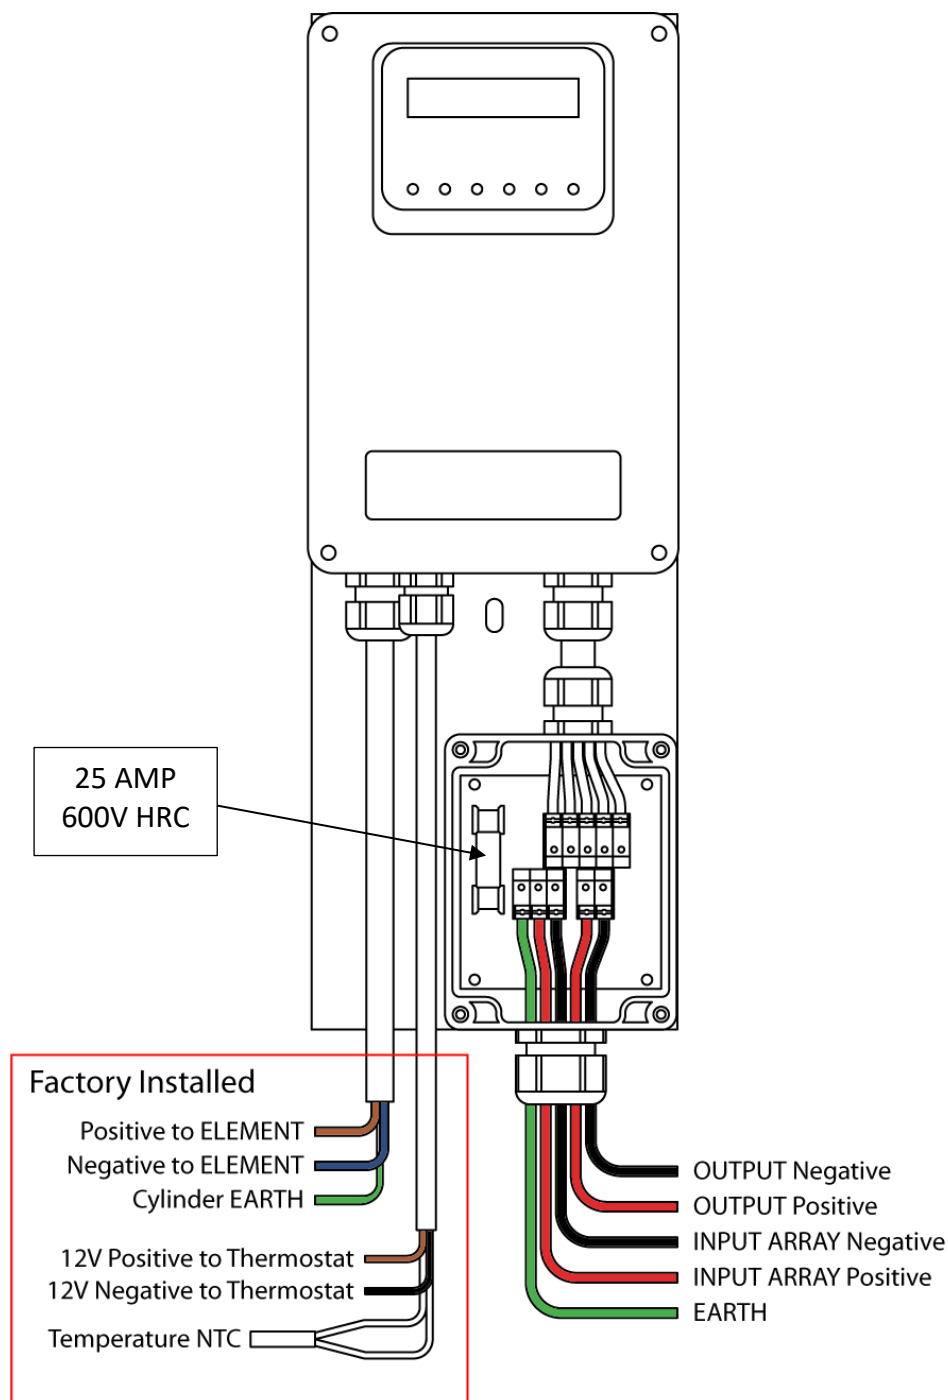

Figure 3.
**See Wiring Diagram - Controller - Figure 3 and Figure 9.**